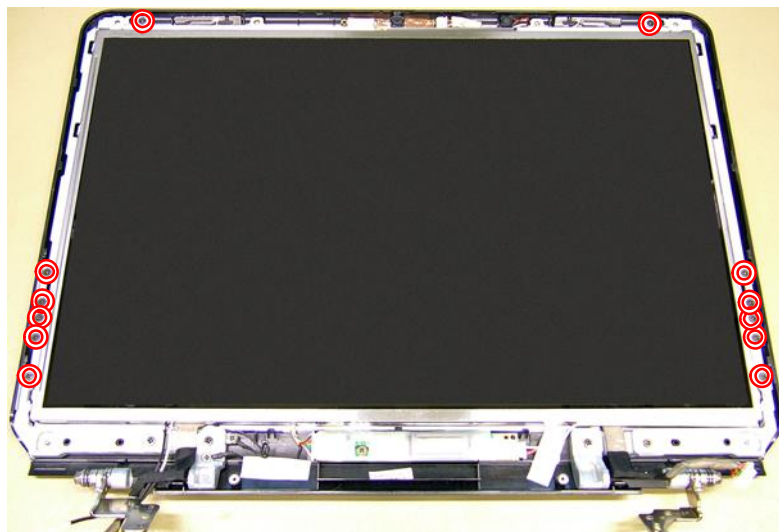

Fig. 43 Location of bracket screws.
3. Remove the ten screws securing the side brackets (five screws on each side) and remove the brackets (see Fig. 43).